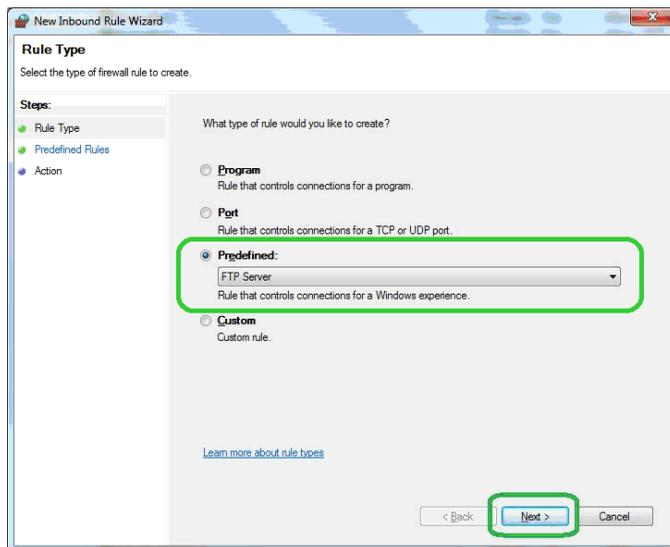

FIGURE 2-38 Windows Firewall - New Inbound Rule Wizard - Predefined (FTP Server)
Step 6 On the **Rule Type** page of the New Inbound Rule Wizard, select **Predefined:** as shown in FIGURE 2-38.
Step 7 Select **FTP Server**, as shown in FIGURE 2-38.